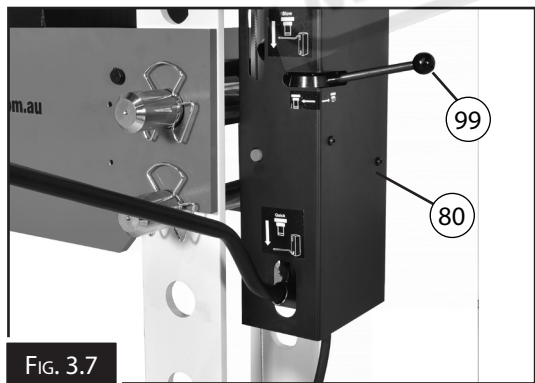

FIG. 3.7
4. Fix the selector lever (99) on the selector valve on the pump (80). (Fig. 3.7)